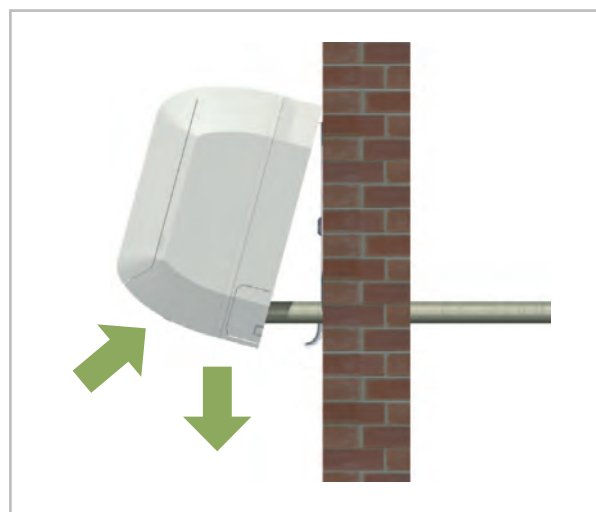

Fig. 27: Horizontal positioning
5. ➡ Check again that the unit is level. (Fig. 27)